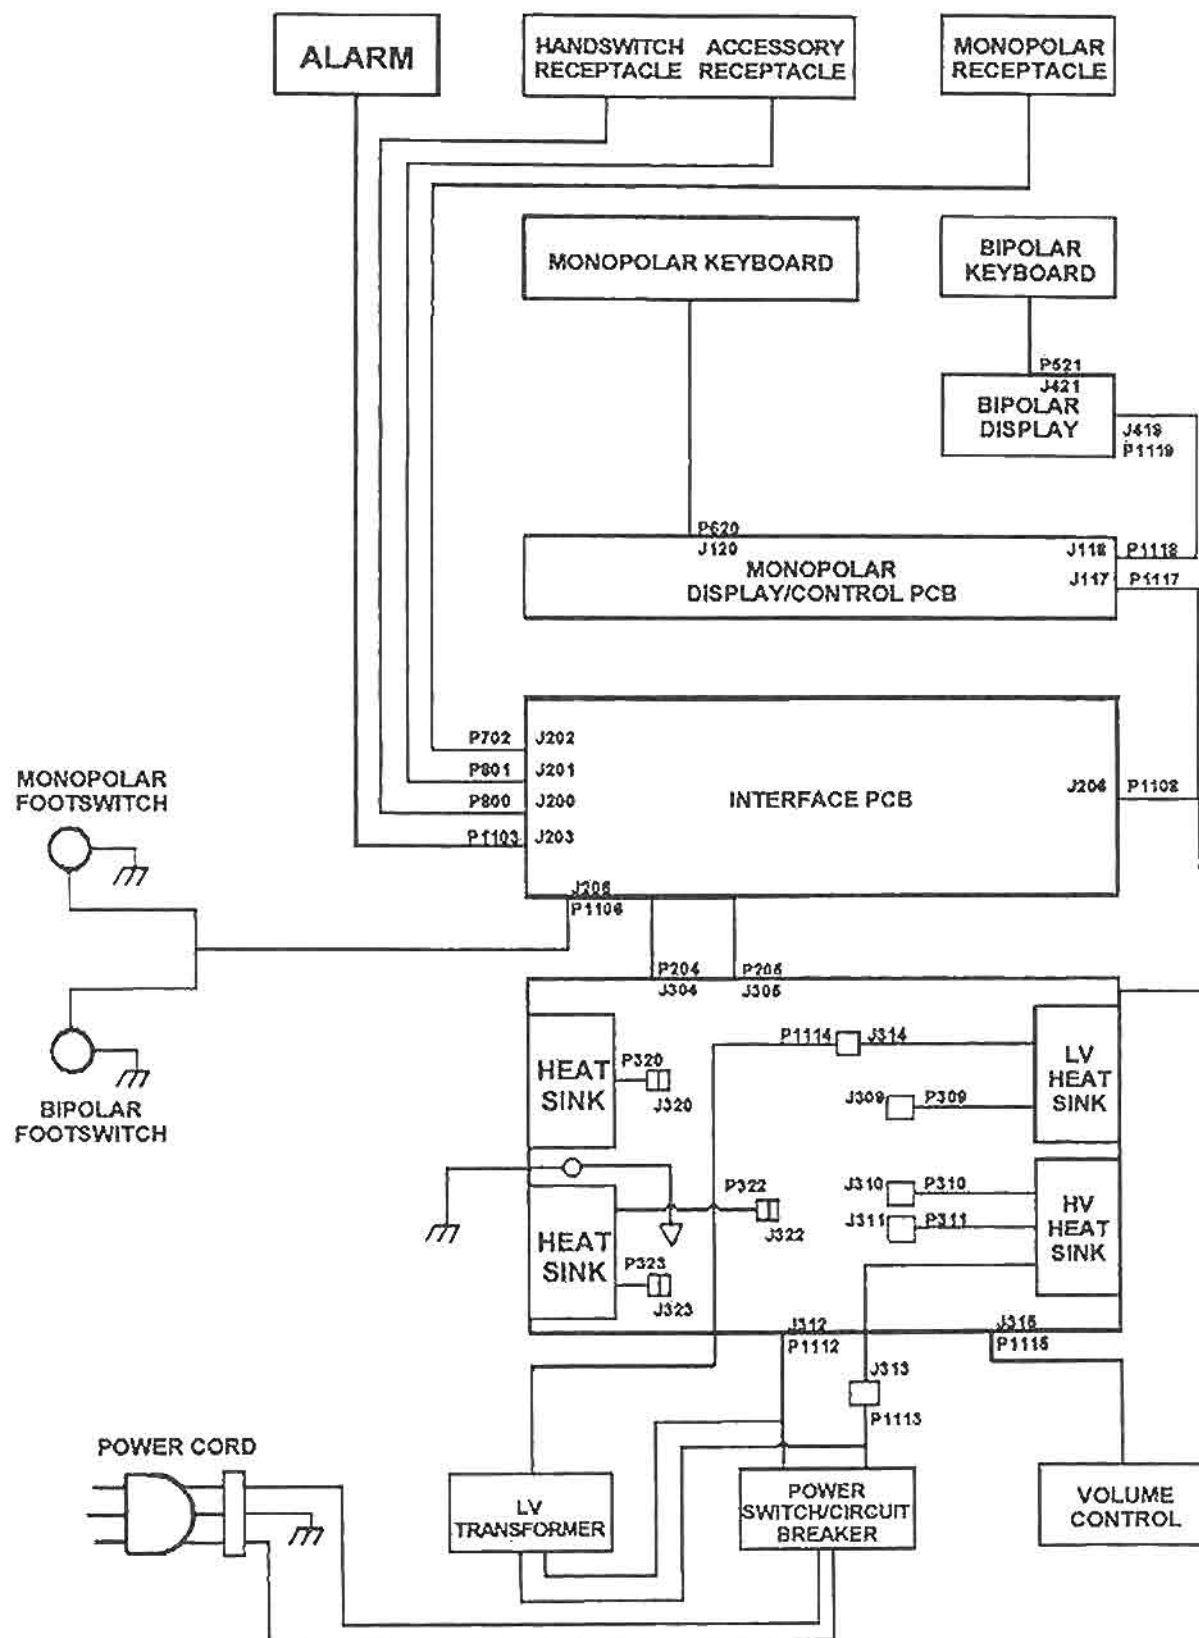

Figure 4-2. ES apparatus interconnection diagram.
c. This section also contains the ES apparatus interconnection diagram (fig 4-2), illustrations of the PCBs, and wiring diagrams or schematics of the PCBs.